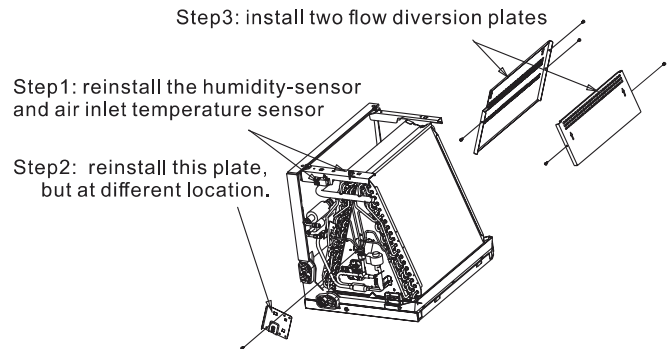

Fig. 7
- (7) Follow the steps in Fig. 7 for the installation of the sensor, the plate, and the two deflectors (which need to be obtained from the dealer).